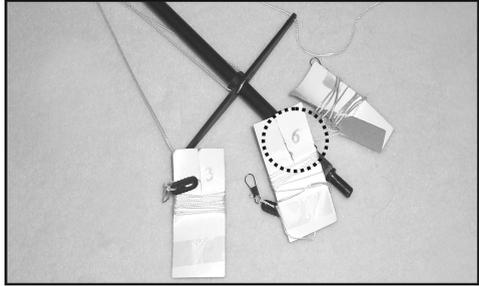

Figure 9
- Every tensioning rope is applied with a number ex works, see figure 9.